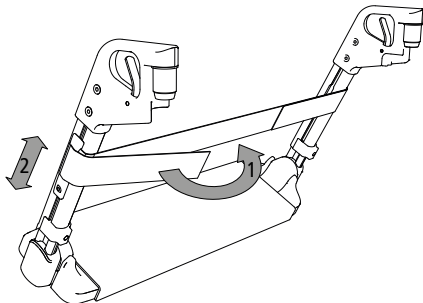

Fig. 9
1. Thread the calf strap on the outside of the leg supports through the plastic holder (1, Fig. 9).
2. Loosen the Allen screw on the plastic holders. Now you can adjust the calf strap to the desired height (2, Fig. 9).